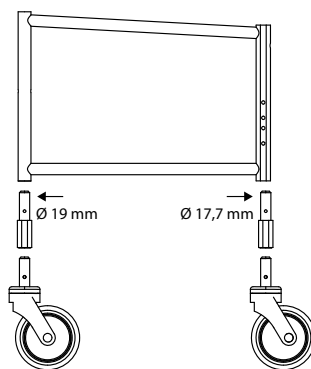

Fig.18
2. Place the four height adapters between the frame and the swivel wheel and screw them firmly onto the frame (Fig. 18).